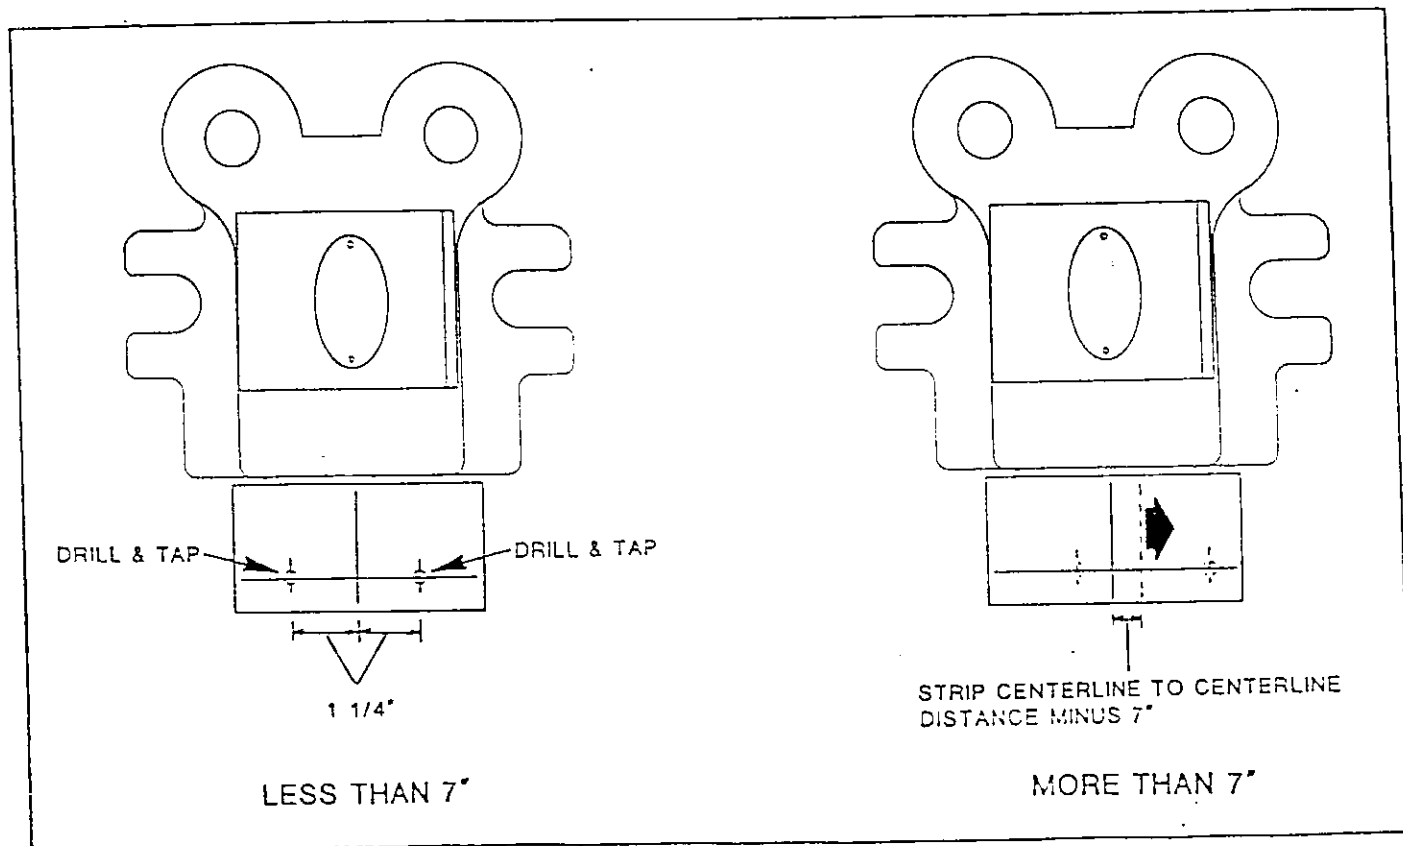

Figure 1-15
STEP 11: If distance measured in STEP 10 is less than 7", scribe two lines $1\frac{1}{4} \pm \frac{1}{64}$ " away from centerline scribed in STEP 9. See Figure 1-15. If distance measured in STEP 10 is more the 7", centerline scribed in STEP 9 must be moved rightward the distance over 7". For example, if the distance measured in STEP 10 is 8", then the centerline scribed in STEP 9 has to be moved 1" rightward. . After scribing new centerline, scribe two lines $1\frac{1}{4} \pm \frac{1}{64}$ " away from new centerline.
STEP 12: Drill and tap two $\frac{5}{16}$ -18 holes in positions shown in Figure 1-15.